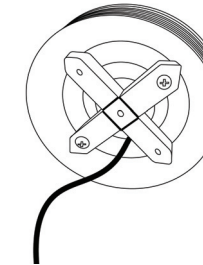

Figure 8 Detached mounting base
1. Remove the 8 mm leveling screw and detach the mounting base (Figure 8).